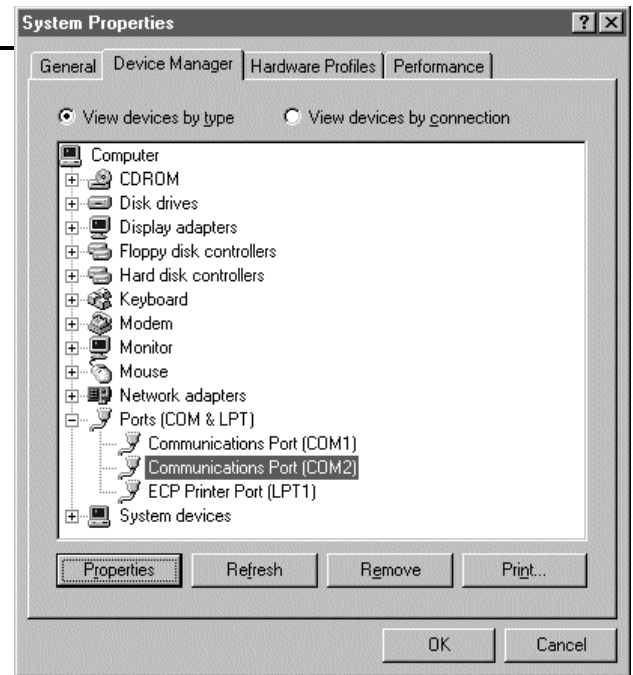

Figure 8-4: System Properties Dialog Box
6. The relevant screen is shown in Figure 8-4.